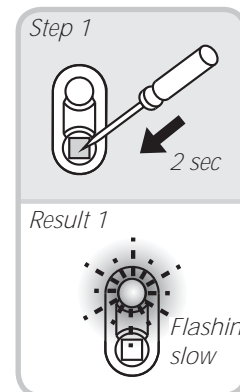

Fig. 20
- The LED flashes slowly to indicate learning mode (see Fig. 20).